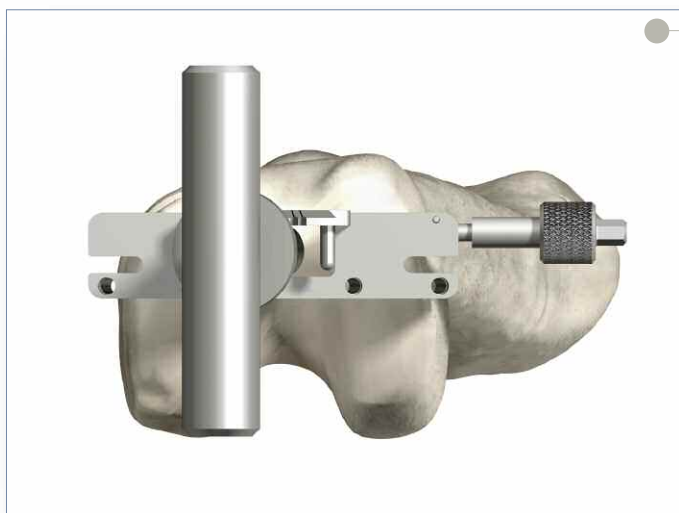

Figure 9
- ▶ Use two 1/8" diameter pins through the distal holes to secure the Femoral Alignment Guide to the distal femur (**Figure 9**).